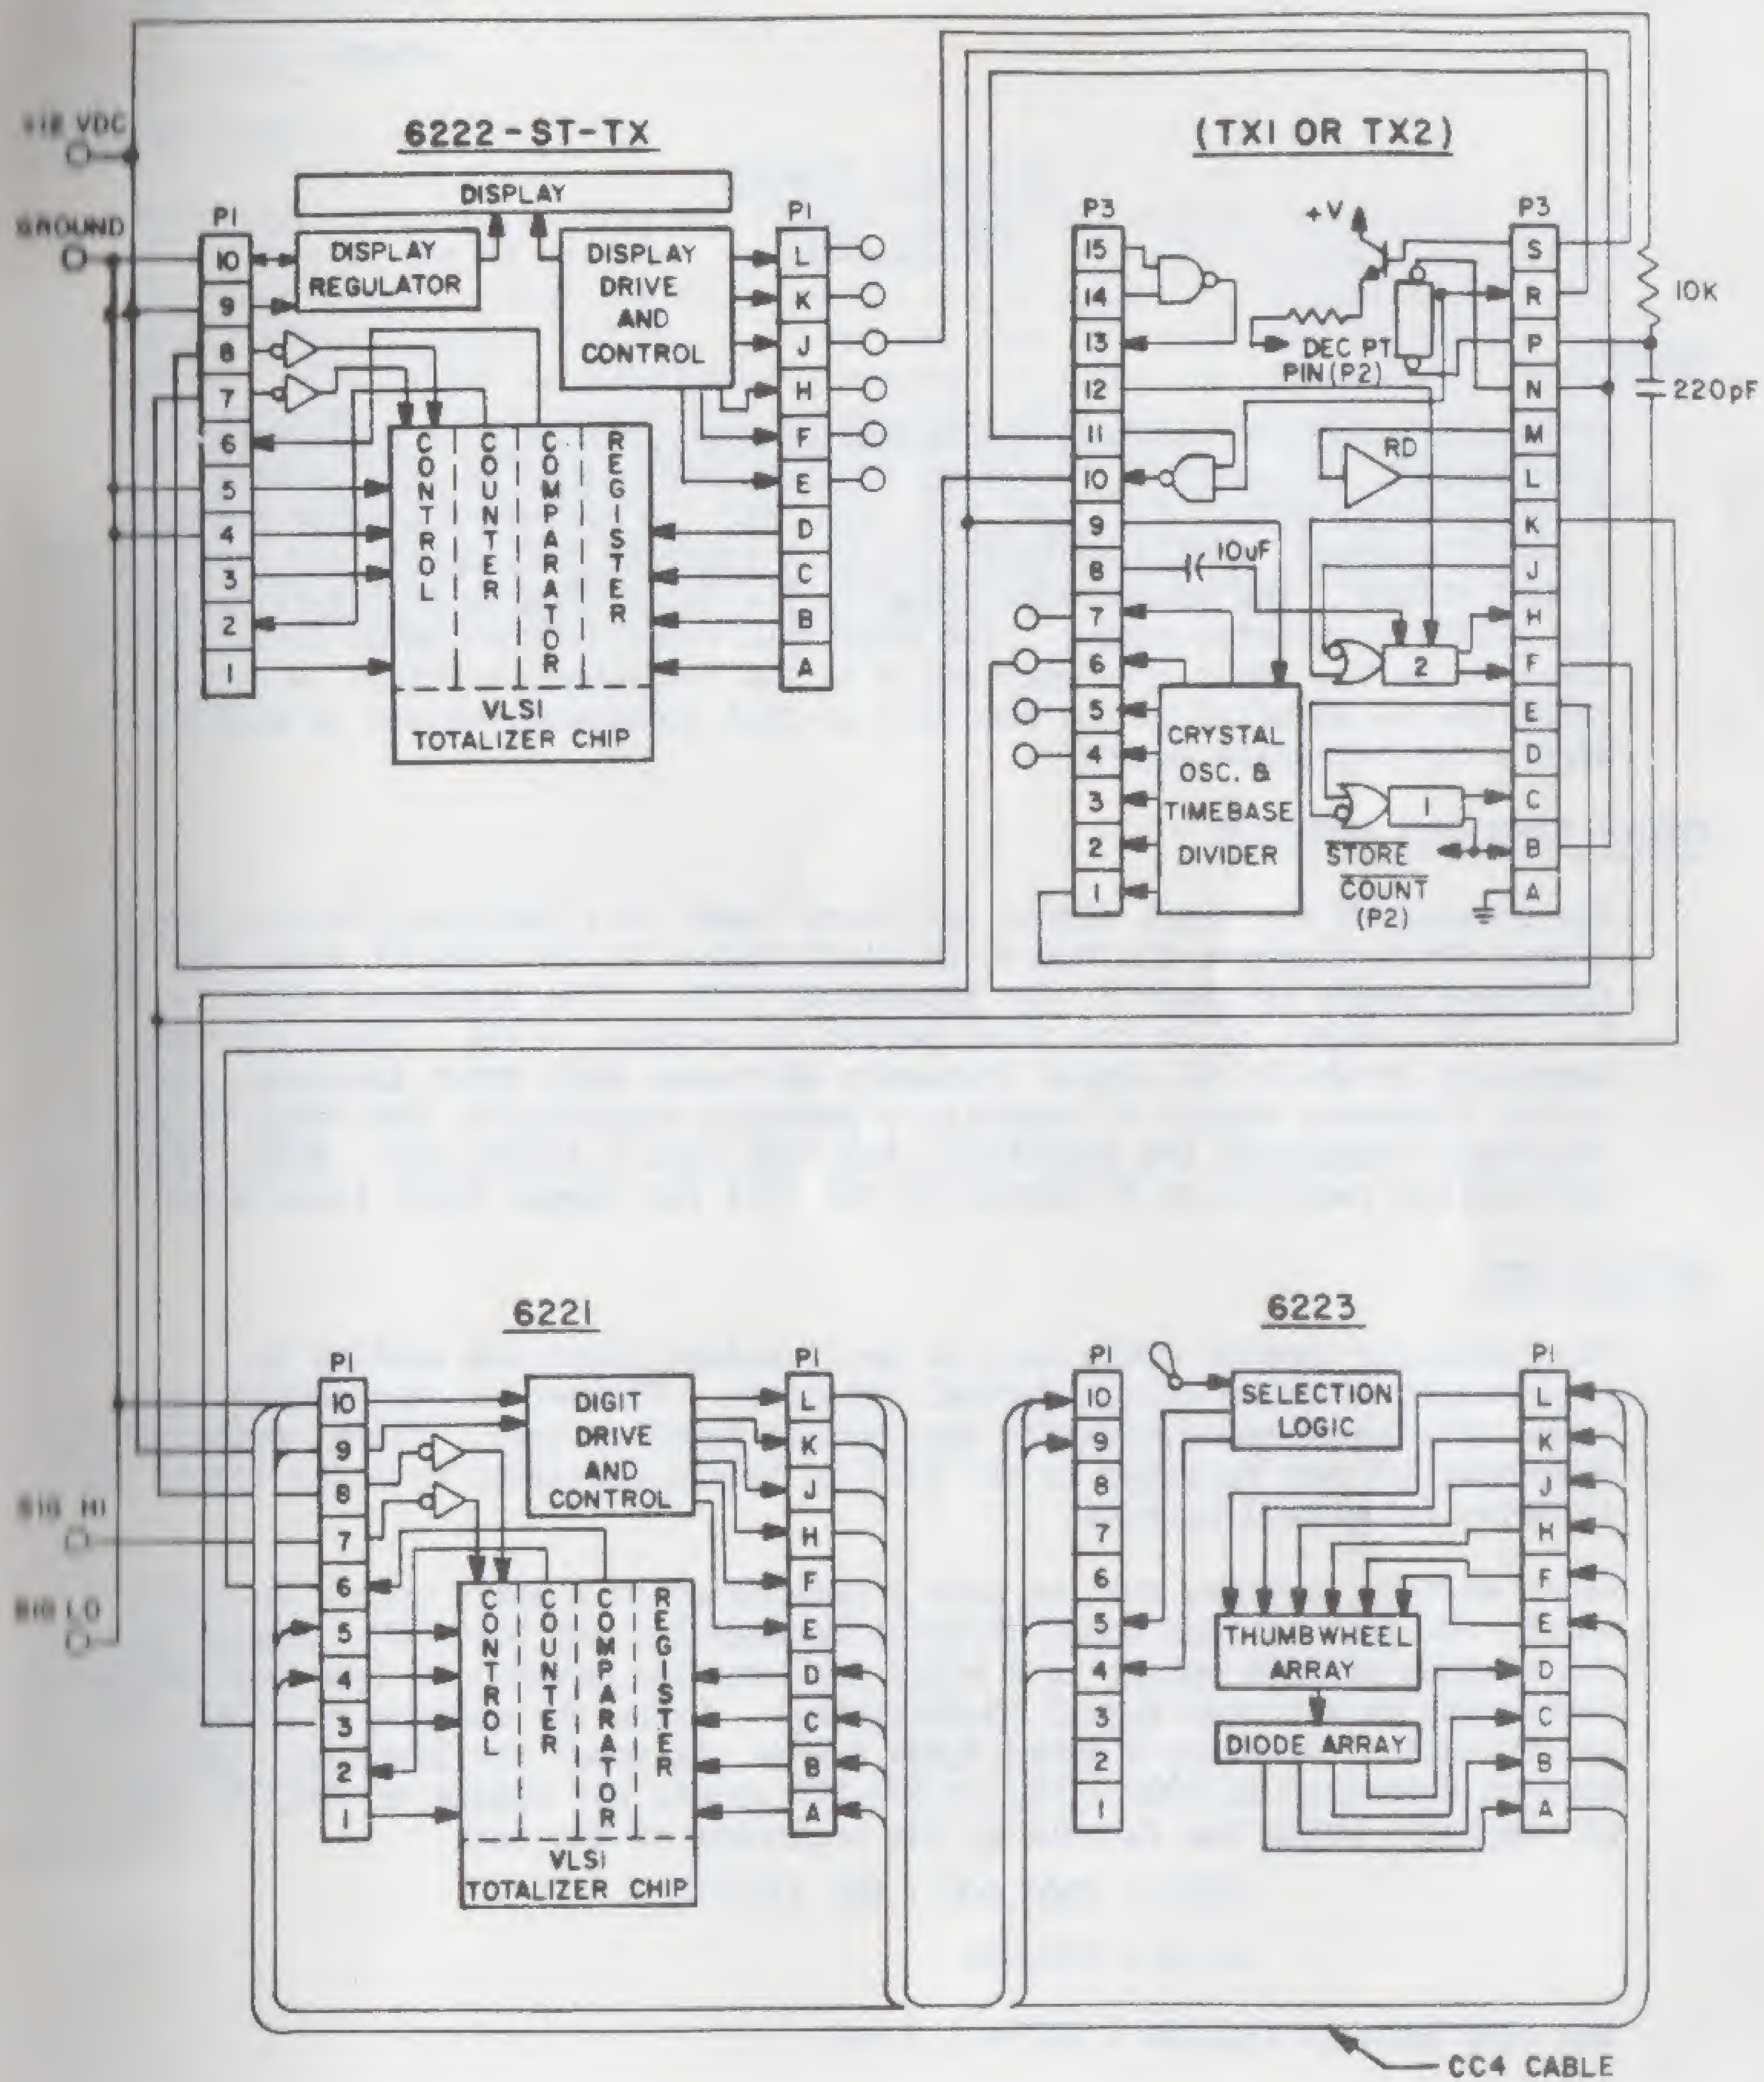

FIGURE 1
Figure 1 shows the block diagram and interconnections for the Prescaling Counter. First, the divisor N is set as the LIMIT value on the 6223 thumbwheel switches. It is entered by pressing down in its toggle switch. This value remains in the 6221 counter until changed or until power is removed. The toggle switch is then lifted to preset the 6221 counter within its count range. The EQUAL output of the 6221 triggers the No. 2 3μsec one-shot multivibrator on the TX option. The output of this multivibrator resets the 6221 counter to zero and is counted by the 6222 counter. The 6221 then counts up to N and repeats the process. The 6222 counter with TX option is a frequency counter. When the negative going edge of the time base occurs, the No. 1 one-shot multivibrator generates a 3μsec pulse. This pulse is the store command to the counter (interboard connection). It also sets a latch. The latch is connected to reset the time base to zero and to inhibit counting. The latch and pulse outputs are gated together to reset the counter after the count is stored. A connector-mounted 220pF capacitor resets the latch every 10μsec. This clears the inhibit from the counter and reset from the time base. A new sample period is started without any spurious counts or truncated time base period. The one-second time-base connection is shown. Other decimal time bases are obtained by changing the time-base divider connection. The decimal point is connected to the right of the 5th most-significant digit. It can be placed on the right of any digit by proper connection.
A Factoring Counter displays the number of input counts in a programmable time period. In general, Factoring Counters are scaled to give readouts in engineering units, i.e. RPM, FPS, GPM, etc. A Factoring Counter requires a 6221 Totalizer, a 6222-ST Totalizer with timebase (TX) option and a 6223 single PRESET Module. The connections shown in the Block Diagram of Figure 1, count the 100KHz oscillator output. The displayed count is then equal to $f_i (10^{-5}N)$, where f_i is the input frequency and N is the thumbwheel setting. A decimal point may be selected at any position so that powers-of-ten can be modified to show a desired scale factor.